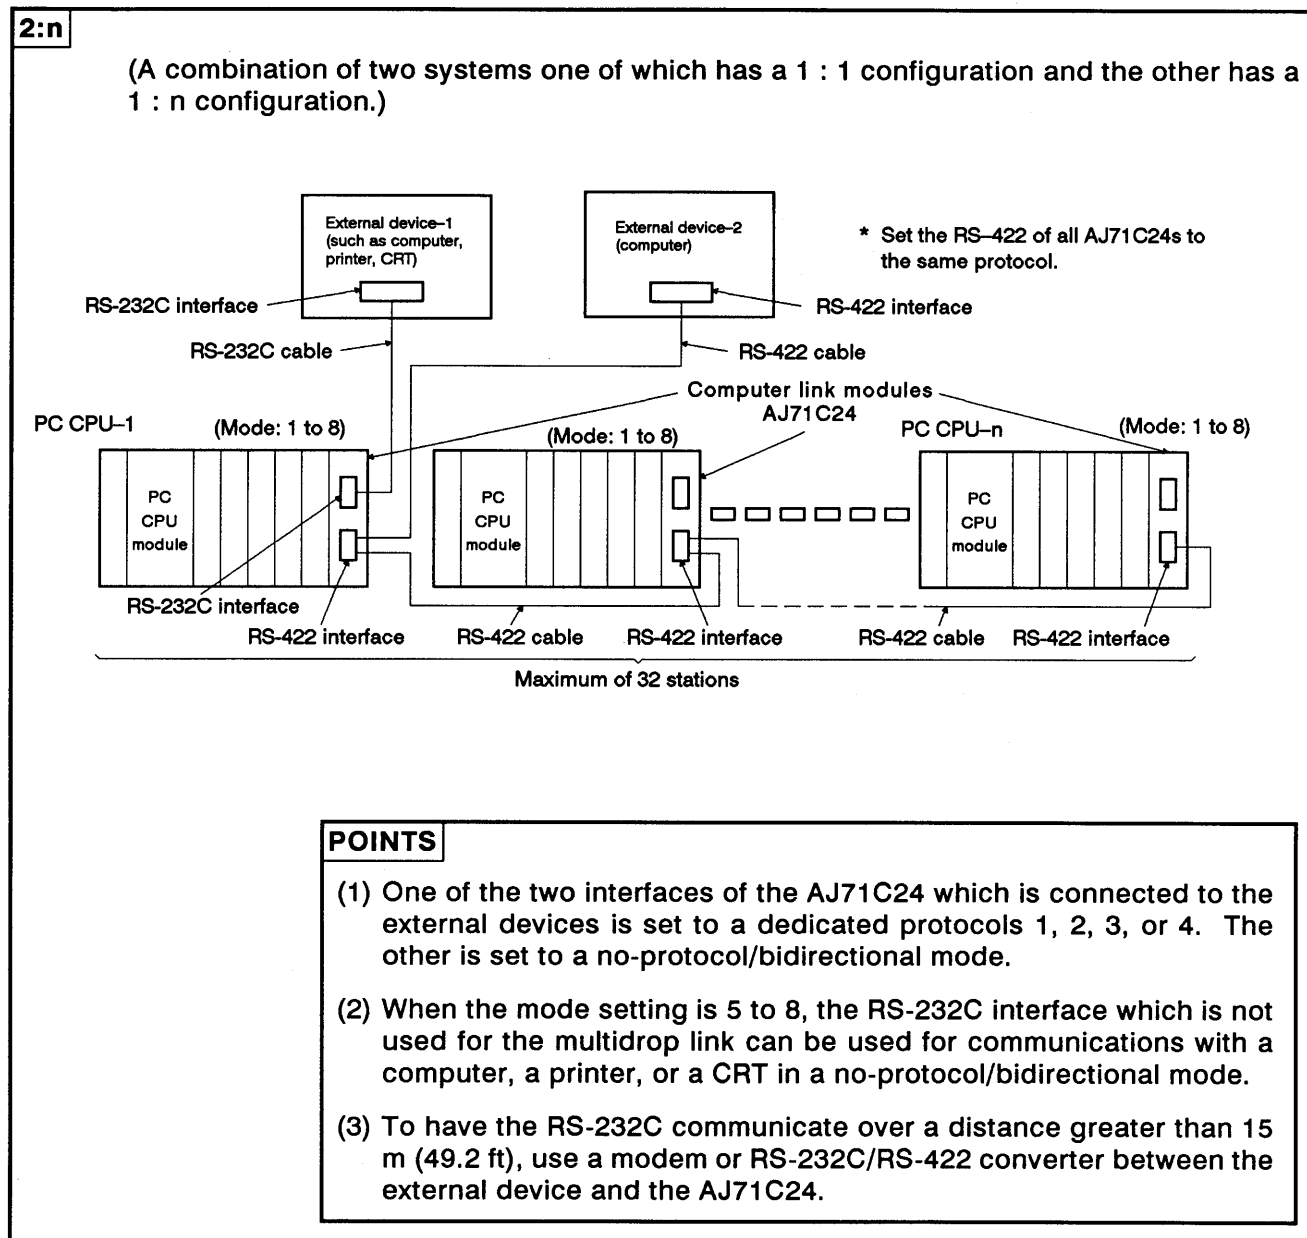

Fig. 2.5 System Configurations (IV)
- (1) The system configuration for a 2 : n (up to 32 stations) ratio of external devices (such as a computer) to PC CPUs is shown in Fig. 2.5 below.
* 1 : Data communications is possible only with the system which has a 1 : 1 configuration (one external device to one PC CPU, as shown in Fig. 2.5).
* 1 : If full-duplex transmission is possible with the external device, data communications in the no-protocol mode is possible with the system which has the 1 : n configuration (external device-2 to PC CPUs, as shown in Fig. 2.5).
* 1 : Data communications is possible only with the system which has a 1 : 1 configuration (external device-1 to one PC CPU, as shown in Fig. 2.5).